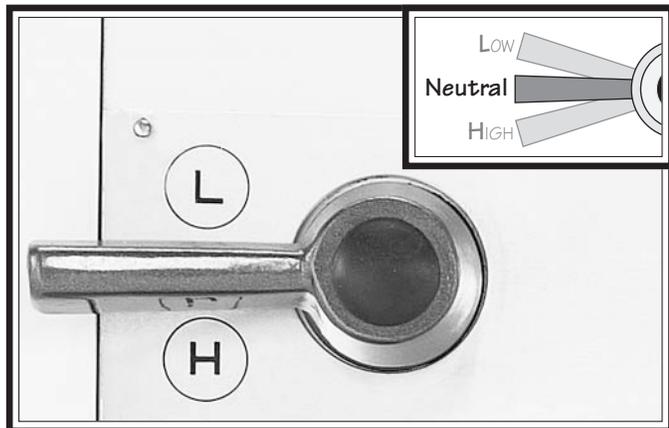

Figure 27. Gearbox range lever in neutral.
8. Move the gearbox range lever on the headstock to the neutral (middle) position to disable power feed, as shown in **Figure 27**.